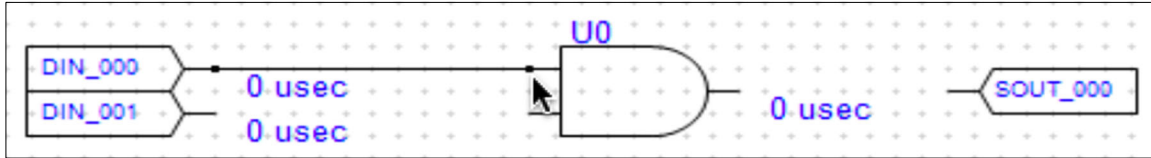

Figure 80 - Finishing the Connection
- 3) Release the mouse button to finish the connection. The new connections at each pin are shown as black vertex points (Figure 80 - Finishing the Connection).